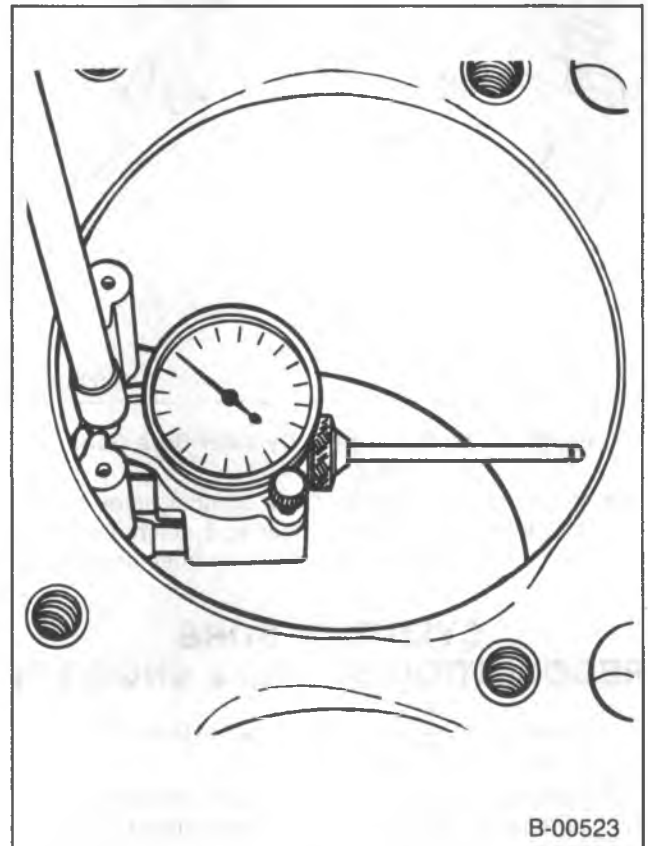

Figure 1—Checking the Cylinder Bore
4. Carefully work the gage up and down the cylinder to determine taper and turn it to different points around the cylinder wall to determine the out-of-round condition (figure 1). Measure the bore both parallel to and at right angles to the engine centerline. Measure at the top, middle and bottom of the bore and note the readings.